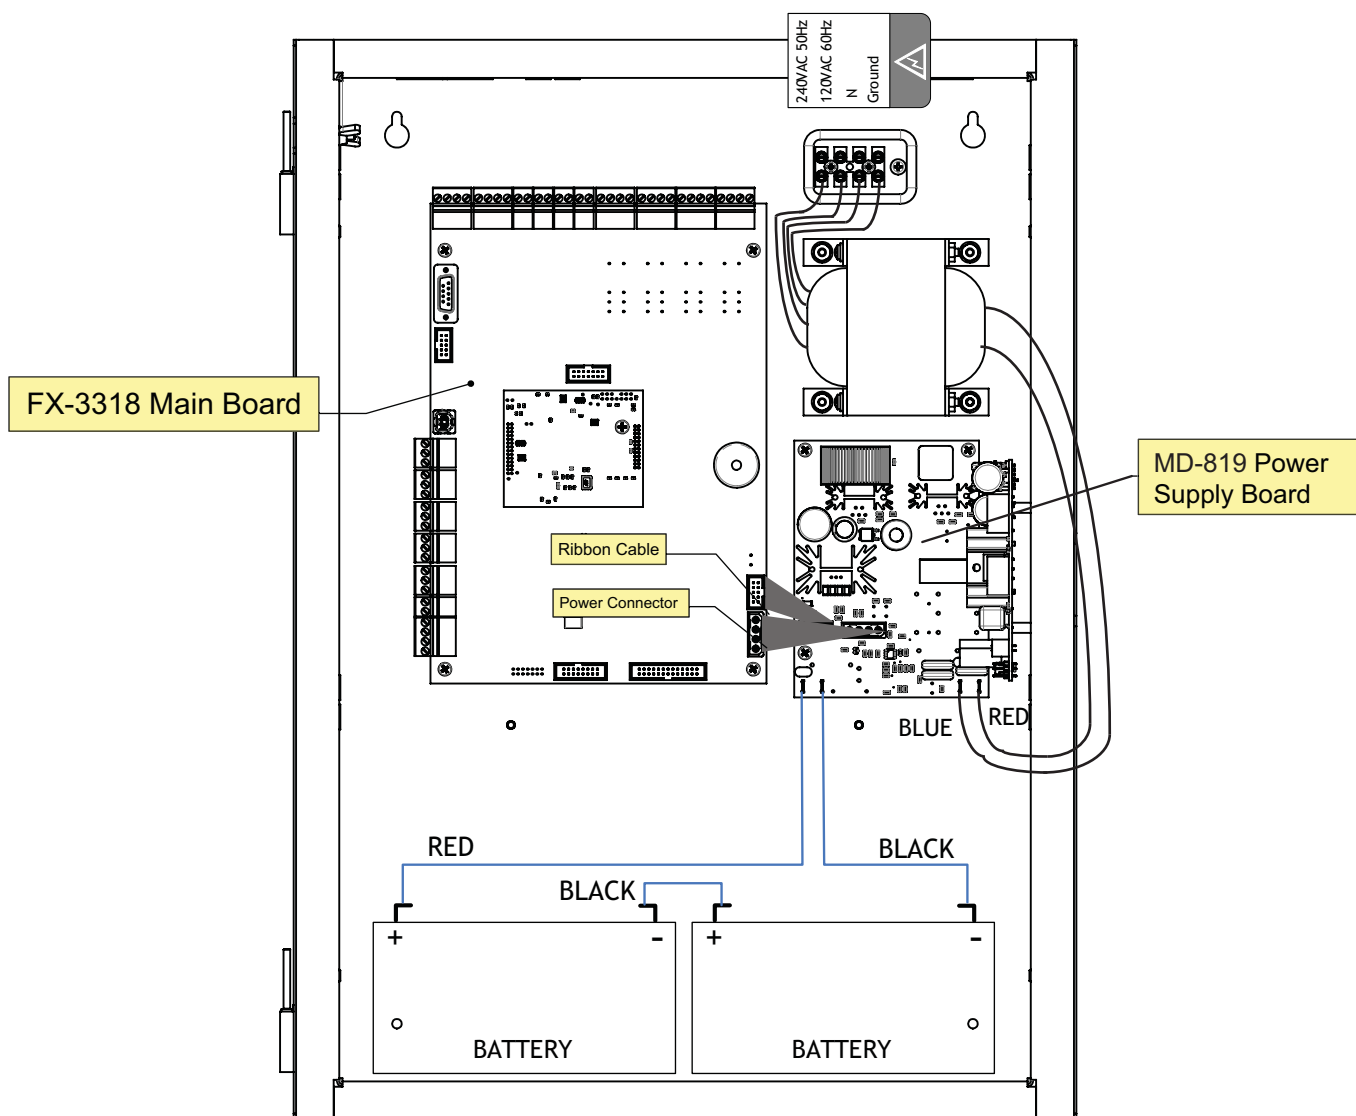

Figure 28 Main Power Supply Wiring and Connections
Wire the power supply as shown in Figure 28 and adhere to the following:
- Wire the AC power to the AC wiring terminals as shown in Figure 28 using the proper wire gauge with 600 volt insulation and proper over current circuit protection that complies with local codes.